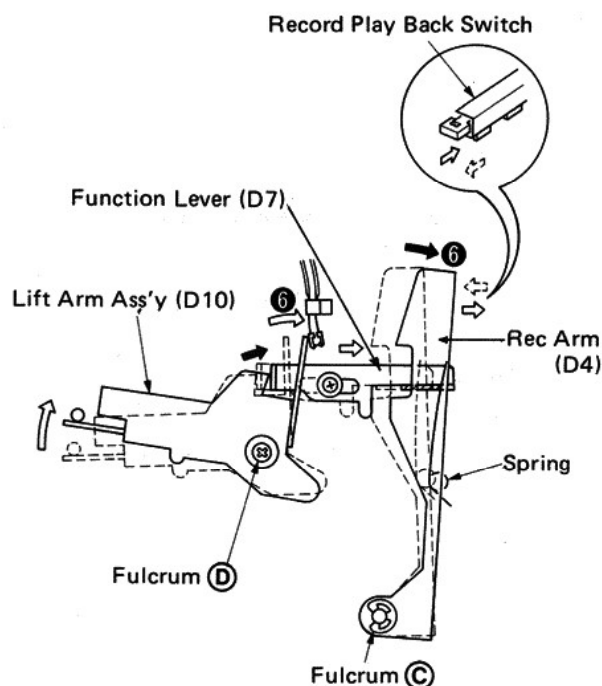

Fig. 31
- 4 Therefore, when the function lever slides to the right and the spring section of the REC arm (D4) is pushed by it, the REC arm (D4) begins to move in direction ⑥ around the fulcrum (C).
- 5 The movement of the REC arm is used to switch over the RECORD/PLAYBACK switch into the REC mode. (Fig. 31)